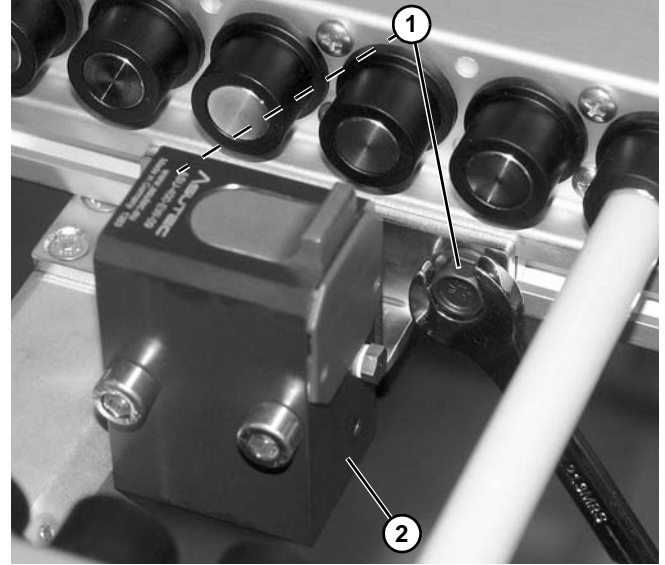

Figure 91
1. Remove two screws (**Figure 91, item 1**), air line, and pallet stop (**Figure 91, item 2**) from conveyor.